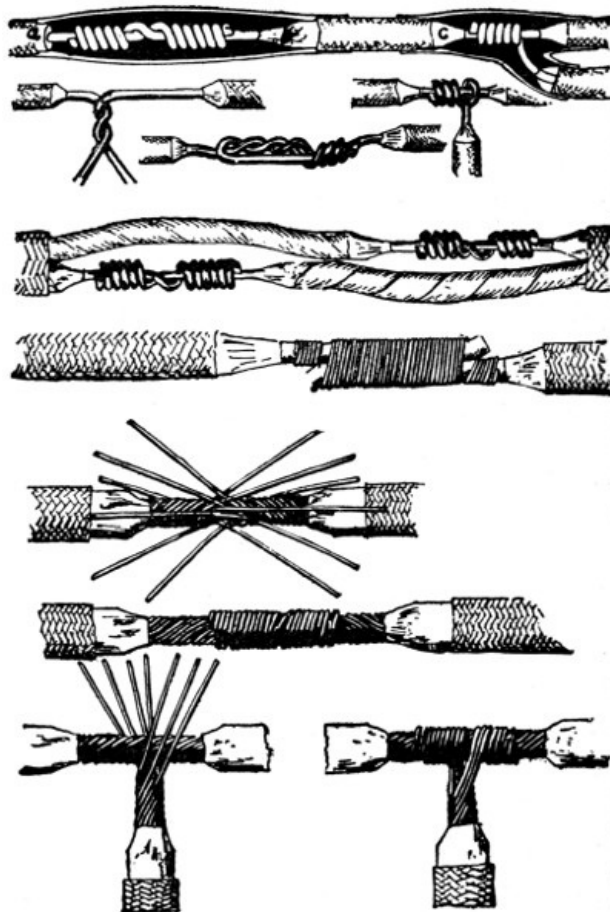

FIGURE 164.
*Joints.*—Methods of making joints are illustrated in Figure 164. Be careful not to overheat, especially at points where there is a strain on the wire.